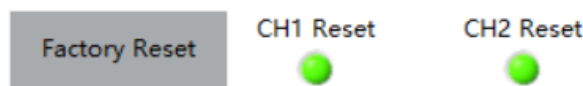

Figure 5.1.9 Restore factory settings
- Click the "Factory Reset" button to erase the original angle programming data. (If the chip is being programmed for the first time, this step can be skipped) After erasing is completed, the "Factory Reset" indicator light will turn green (Figure 5.1.9)